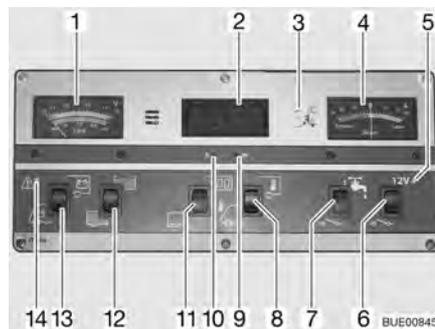

Fig. 104 Panel IT 994
With the V/tank gauge (Fig. 104,1), note the top scale. The gauge automatically lights up as soon as a switch is pressed.
- Press the lower part of the rocker switch (Fig. 104,13): The battery voltage of the starter battery is displayed.
- Press the upper part of the rocker switch (Fig. 104,13): The battery voltage of the living area battery is displayed.
The V/tank gauge is for the indication of the quantity of water or waste water. With the V/tank gauge (Fig. 104,1), use the bottom scale. The gauge automatically lights up as soon as a switch is pressed.
- Press the upper part of the rocker switch (Fig. 104,12): The volume of water is displayed.
- Press the lower part of the rocker switch (Fig. 104,12): The volume of waste water is displayed.
The red ALARM warning light (Fig. 104,14) flashes as soon as the voltage of the living area battery falls below 11 V (measured under operation) and there is a risk of a total discharge.
*Switching on:* ■ Press the upper part of the rocker switch (Fig. 104,11): Digital clock display is switched on. Temperature display is ready to operate.
*Switching off:* ■ Press the lower part of the rocker switch (Fig. 104,11): Digital clock display and temperature display are switched off.
*Adjusting:* ■ Press a thin device, such as a biro, into the opening for the hour display (Fig. 104,10) until the correct hours are displayed.
■ Press a thin device, such as a biro, into the opening for the minute display (Fig. 104,9) until the correct minutes are displayed.
- Press the upper part of the rocker switch (Fig. 104,8): The internal temperature is displayed.
- Press the lower part of the rocker switch (Fig. 104,8): The external temperature is displayed.
The battery current actually flowing is permanently displayed on the current gauge (Fig. 104,4). The gauge automatically lights up as soon as a switch is pressed.
The 12 V main switch (Fig. 104,6) switches the panel and the 12 V power supply of the living area on and off.
- Press the upper part of the rocker switch (Fig. 104,6): The 12 V living area power supply is switched on. The indicator lamp (Fig. 104,5) lights up green.
- Press the lower part of the rocker switch (Fig. 104,6): The 12 V living area power supply is switched off. The indicator lamp (Fig. 104,5) goes out.
The 12 V indicator lamp (Fig. 104,5) illuminates whenever the 12 V main switch (Fig. 104,6) is switched on.
The yellow 230 V indicator lamp (Fig. 104,3) illuminates whenever line voltage is available at the transformer/rectifier input.
*Switching on:* ■ Press the upper part of the rocker switch (Fig. 104,7): The water supply is ON.
*Switching off:* ■ Press the lower part of the rocker switch (Fig. 104,7): The water supply is OFF.